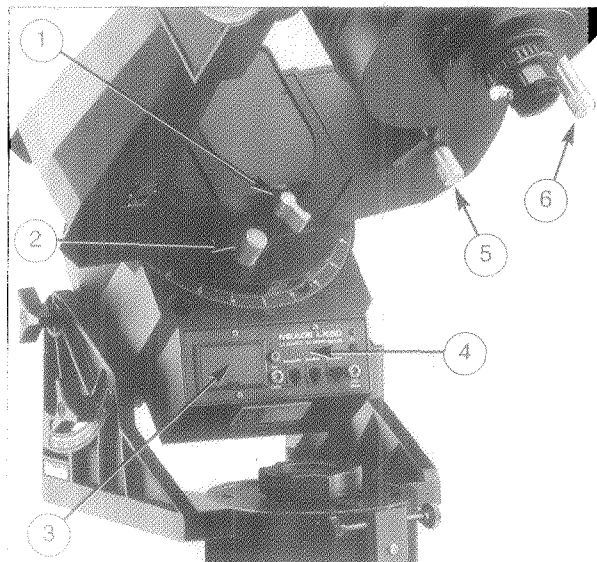
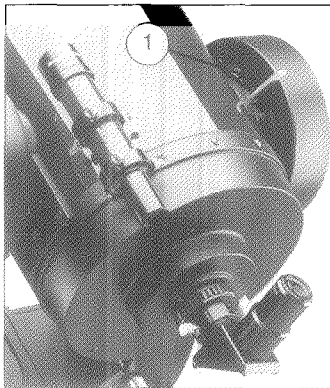

Fig. 11: (1) R.A. Lock; (2) R.A. Slow-Motion Control Knob; (3) Battery Compartment; (4) Control Panel; (5) Dec Slow-Motion Control Knob; (6) Focus Knob.
Fig. 12: (1) Declination (Dec) Lock.
Open the battery compartment (3, Fig. 11) located on the control panel and remove the battery carrier.
Focus Knob (6, Fig. 11): Turning this knob causes a finely-controlled internal motion of the telescope's primary mirror to achieve precise focus of the telescopic image. The telescope can be focused on objects from a distance of about 25 feet to infinity.
Dec Lock (1, Fig. 12): Locking and unlocking the Dec movement of the optical tube is accomplished by moving the Dec lock lever all the way forward for fully locked, or by moving the Dec lock lever all the way back (towards the eyepiece) for fully unlocked. Remember: never attempt to move the optical tube manually when the Dec lock is locked.
Dec Slow-Motion Control (5, Fig. 11): With the Dec lock in the fully locked position (with the lever pushed forward towards the front end of the optical tube), the Dec Slow-Motion Control may be used for fine motions of the telescope in a vertical direction. (The meaning of "Dec," or Declination, is explained below.)
R.A. Lock (1, Fig. 11): Locking and unlocking the R.A. lock is accomplished by moving the R.A. lock lever all the way to the left for fully locked, to the center for partially locked, and all the way to the right for fully unlocked. Remember: never attempt to move the optical tube manually when the R.A. lock is fully locked.
R.A. Slow-Motion Control (2, Fig. 11): With the R.A. lock either fully unlocked or partially locked, the R.A. slow-motion control knob permits manual slow-motion of the telescope in a horizontal direction. (The meaning of "R.A.," or Right Ascension, is explained below.)
- 1. *Right Ascension (R.A.) Slow-Motion Control* (2, Fig. 11) should never be turned when the R.A. lock (1, Fig. 11) is in the fully LOCKED position; damage to the internal gears may otherwise result.
- 2. *The Declination (Dec) Slow-Motion Control* (5, Fig. 11) has a fixed travel length. At some point after turning the
Dec Slow Motion Control continuously in the same direction, the control will become difficult to turn. Do not attempt to turn the Dec Slow-Motion Control past this point or damage to the internal mechanism will result. Instead, back-off the Dec Slow-Motion Control by turning the control about 50 turns in the opposite direction. Unlock the Dec lock (1, Fig. 12) and move the telescope manually to center the object; then resume use of the Dec Slow-Motion Control. Never attempt to move the optical tube manually when the Dec lock (1, Fig. 12) is in the LOCKED position.
After becoming familiar with the telescope's controls, make your first observations of a simple land object - a telephone pole or building, perhaps, several hundred yards in the distance. Keep in mind that the viewfinder has not been aligned, so it will be necessary to sight along the optical tube to "aim" the telescope at the object. With the 25mm eyepiece inserted into the telescope's eyepieces holder, look through the telescope and turn the focus knob (6, Fig. 11) clockwise or counterclockwise until the object is in focus.
Once the selected object is in focus, with the R.A. lock UNLOCKED, and the Dec lock (1, Fig. 12) LOCKED, use the R.A. slow-motion control knob (2, Fig. 11) and the Dec. Slow Motion Control (5, Fig. 11) to center the object in the field of view.